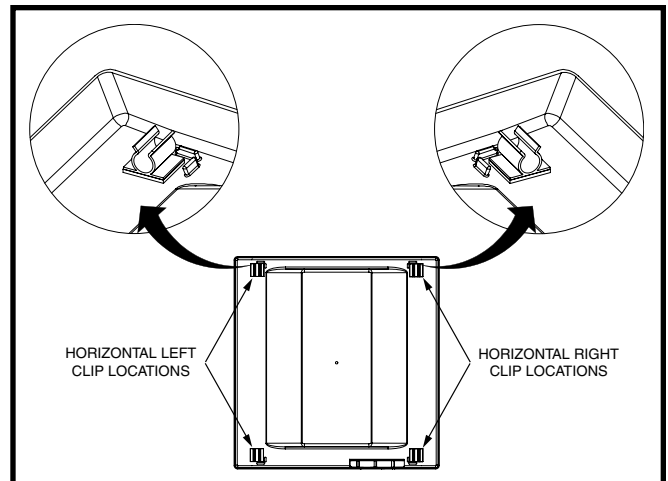

Figure 3. Support Rod Clip Locations
5. Peel off the paper backing from the mounting tape on the back of the clips and mount them in the cleaned recessed areas of the drain pan. These clips will hold the support rod in place once installed. **NOTE:** To determine which end of the pan to mount the clips on, locate your installation type in Figure 3. Install the clips with the open end facing inwards as shown in Figure 3.